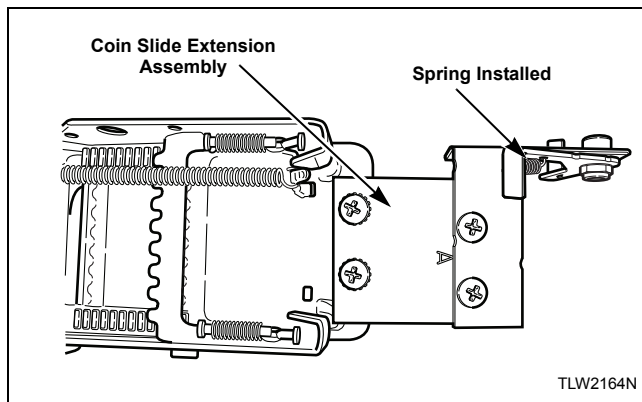

Figure 31
6. Install coin slide extension assembly onto top of coin slide using two remaining screws and lockwashers. Refer to *Figure 31*.
3. Install slide extension onto top of coin slide using two screws. Refer to *Figure 31*.